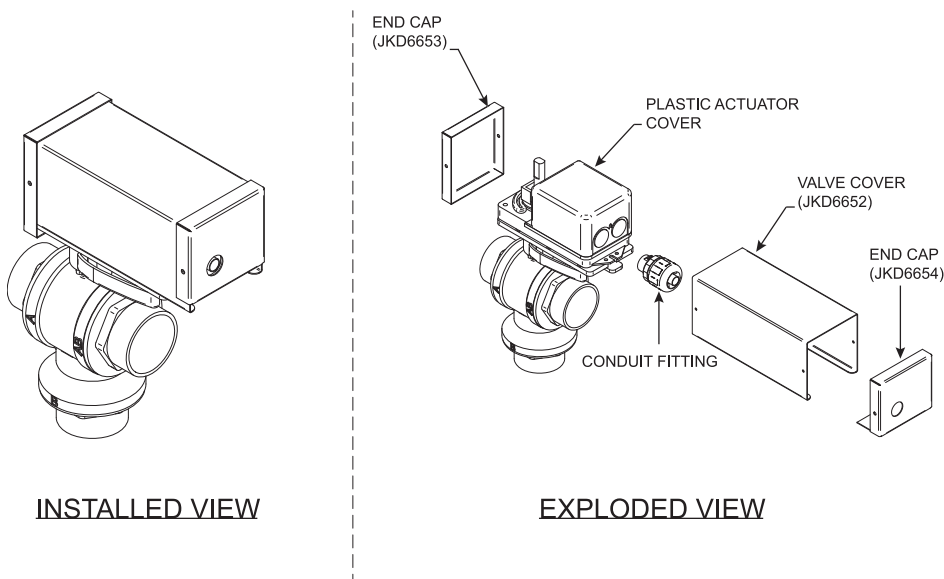

Figure 32 – 3-Way Valve Cover
2. Remove the plastic actuator cover from the 3-way automatic bypass valve by loosening the screw above the conduit fitting (Figure 32).
5. Unscrew the plastic conduit cap from the conduit fitting (Figure 32) and pull the plastic conduit hose and wires from the valve.
6. Feed the plastic conduit hose through the opening of the valve cover end cap (JKD6654) (see Figure. 32) and slide the end cap approximately one foot up the conduit.
10. Place the valve cover (JKD6653) over the 3-way automatic bypass valve. Install the end caps (JKD6653 and JKD6654) using the four screws provided in the kit (BLT7901) as shown in Figure 32.